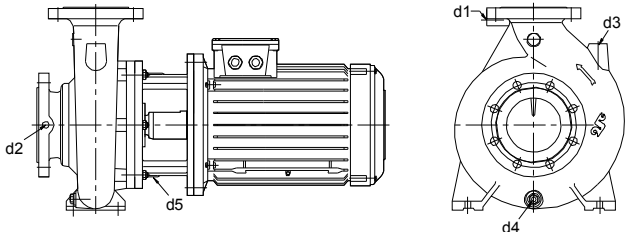

Fig. 6.
- Every pump is fitted with connections on the pump casing to drain the pump and on the bearing bracket to evacuate the seal leakage from the stuffing box (Fig. 6). If required the pump drain and seal leakage can be piped to a suitable reservoir. The pump draining piping must be fitted with an isolating valve and both must be suitable for the maximum operating pressure of the pump.